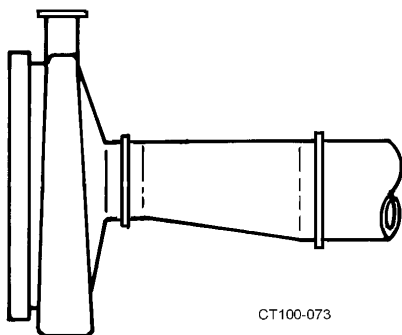

Figure 5 - Correct Eccentric Installation
- If a reducer is connected to inlet, use eccentric type to prevent problems due to trapped air. (Figure 5).